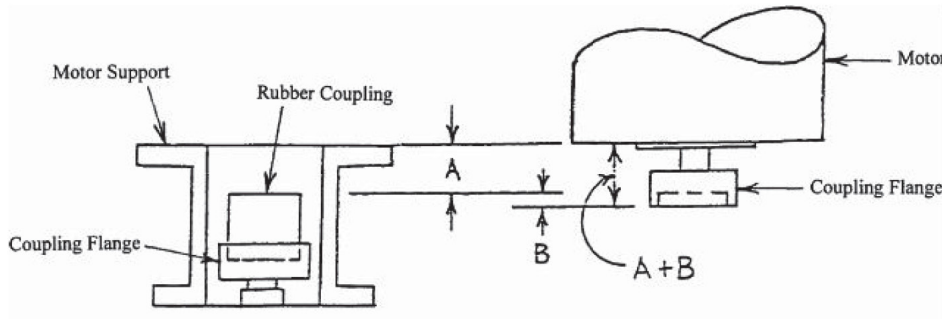

Figure 4.3 - Rubber Coupling Engagement
k. Measure the distance from the top surface of the motor support to the top surface of the rubber coupling ("A" dimension) and add to this dimension the depth of the groove ("B" dimension). This groove is where the rubber coupling engages. Record this dimension ("A" + "B"). See Figure 4-3.